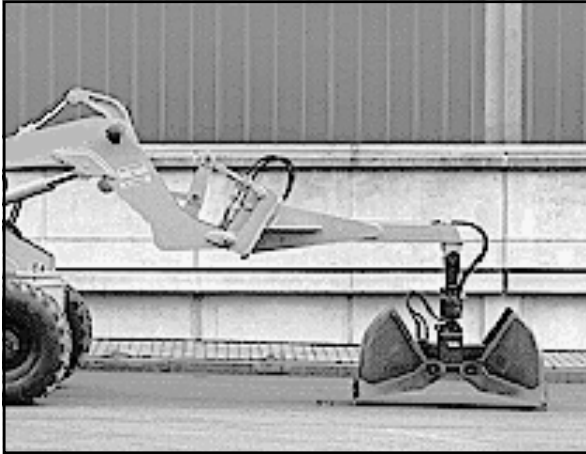

Figure 6-16
- Fig. 6-16 shows the loader with the grab in its most far-reaching position at the start of digging.